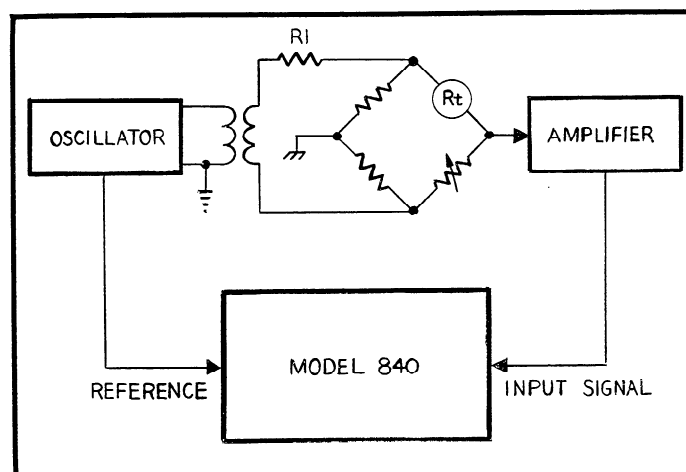

FIGURE 18. Thermistor Bridge Experiment.
a. Thermistor Bridge Experiment. A thermistor is often used to detect small changes in temperature ($\sim 10^{-3}^{\circ}\text{C}$), being run in a dc operated Wheatstone bridge so that temperature variations give changes in the output of the bridge which are measured with a sensitive galvanometer or dc amplifier. An alternate method is the use of a Phase Sensitive Detector with an ac signal. The bridge is operated with low frequency ac (15 Hz) and the output is measured with a Phase-Sensitive Detection system. This a-c frequency is chosen in order to reduce the effects of fluctuating thermal emfs in the bridge and connecting leads. The experimental arrangement is shown in Figure 18. The bridge output signal is amplified and fed into the signal input of the Phase Sensitive Detector whose reference is taken from the bridge-driving oscillator. The use of a Phase Sensitive Detector is required to minimize the effects of reactive components due to thermal time constants of the thermistor. The PSD will give an output for "in phase" or resistive components since the demodulator is triggered by the reference source. The high input impedance of the ac amplifier allows the bridge to be designed with increased resistance values so that the power dissipated in the thermistor can be reduced by a factor of 10 compared with the dc experiment and still give the same output for a given temperature change. The signal generator output is set to give the correct amplitude reference signal and then R is adjusted to give the required current through the bridge (say 10 mA). The amplifier gain is set low and the bridge is roughly balanced by varying the rheostat and monitoring the output voltage on the signal level indicator of the phase-sensitive